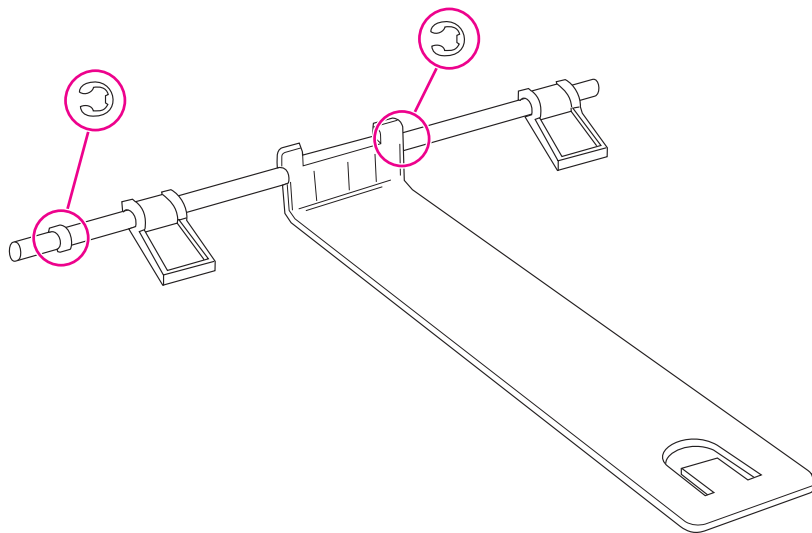

Figure 6-123 Latching Mechanism
- 2 Remove the E-clips and the bushing shown in figure 6-123. (The tab on the bushing should be on the top when you replace it.)